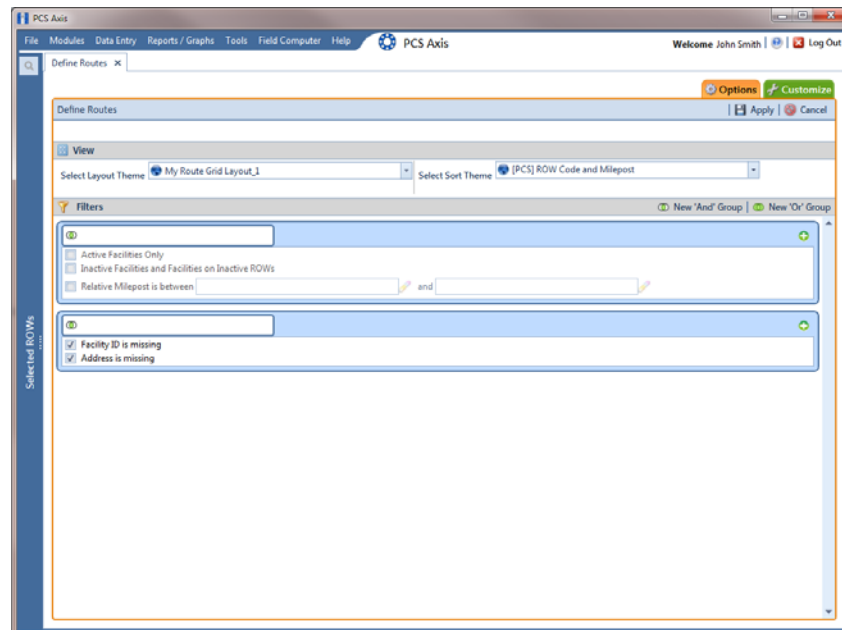

Figure 7-50. Options
- 12** To apply one or more filters to the selected route and the *Define Routes* grid (Figure 7-50, page 339):